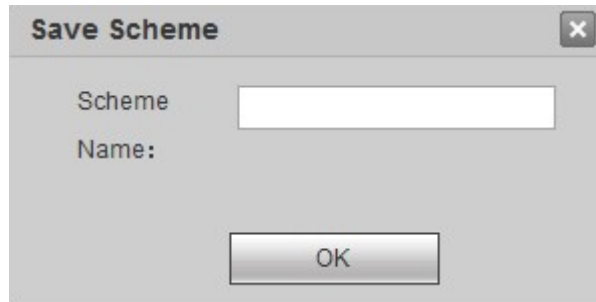

Figure 3-16
Step 2 Click . The system pops up "Save Scheme" window, as shown in Figure 3-16.